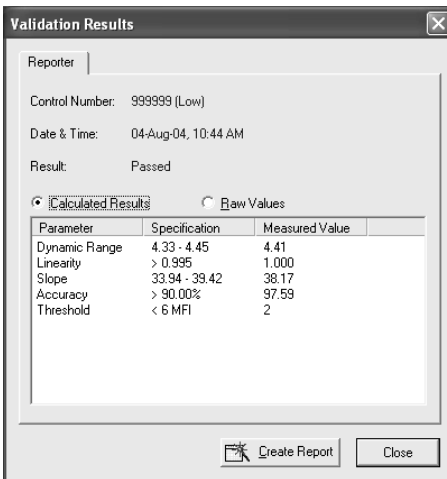

Fig. 9. Reporter validation results.
10. When the procedure is completed, values will appear in a dialog box, as shown in Figure 9: